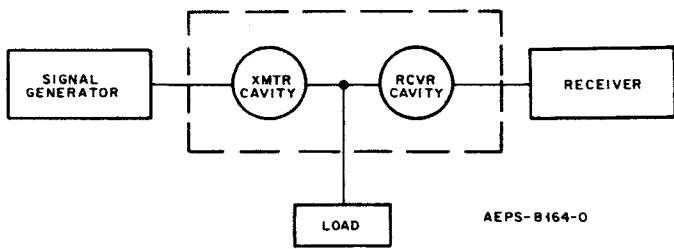

Figure 10. Method 2 Transmitter Branch Reject Test Set-Up
Step 7. Connect the equipment as shown in Figure 10.